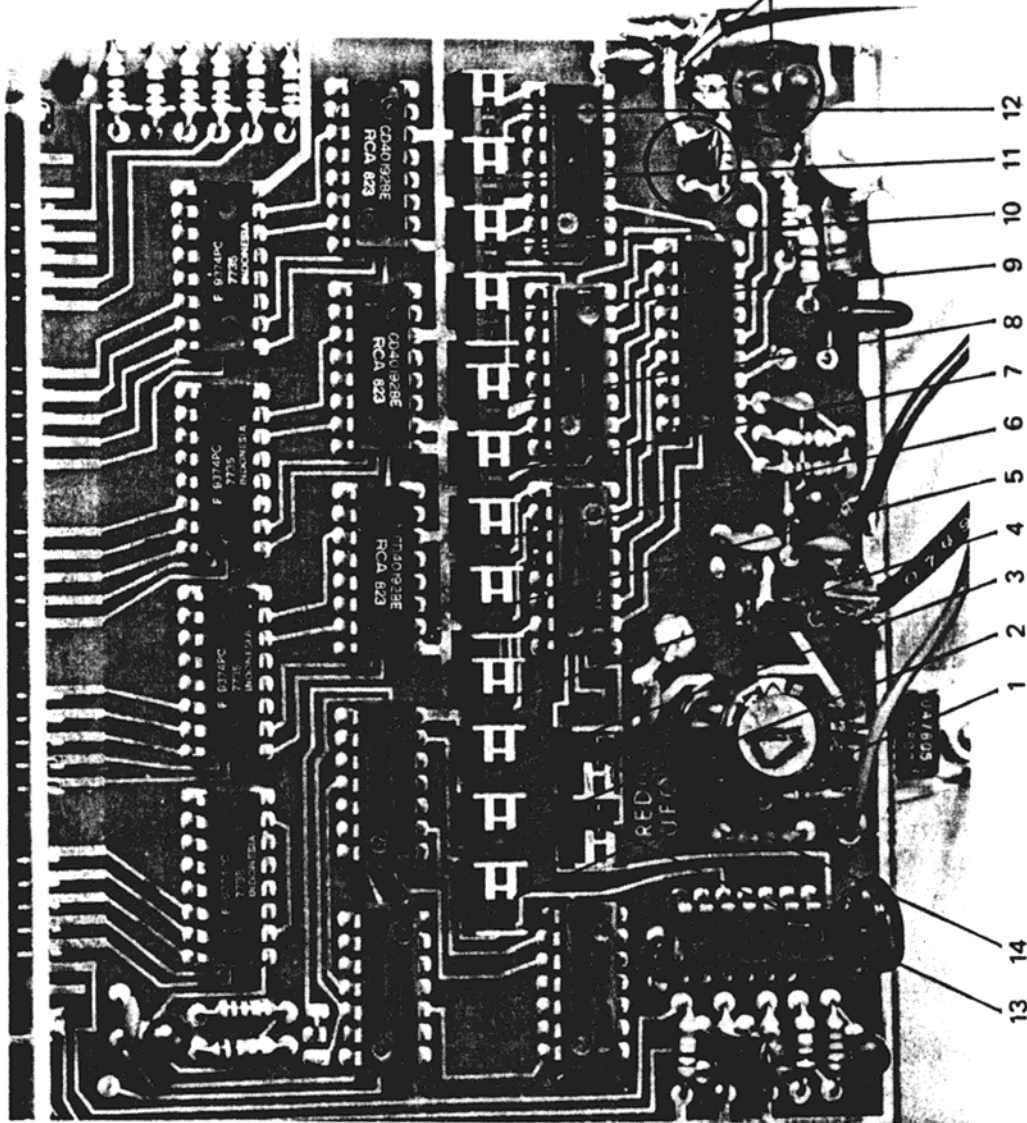

FIG. 5 — UFO PROGRAMMING PINS
2. Refer to *Fig. 5* and remove and discard the 3 filter capacitors in the UFO as shown.
1. Position the UFO with the cover removed (*as in Fig. 5*).
2. Locate the 14 programming blocks (*see Fig. 5*) and remove the white programming pins.
3. The 14 program blocks should now look like Figure 5 with the pins removed.
5. After locating the proper code for your radio, install the program pins as shown in the program section that corresponds to your radio code. Note: Reference sample 1 program on Fig. 5 for correct pin installation.